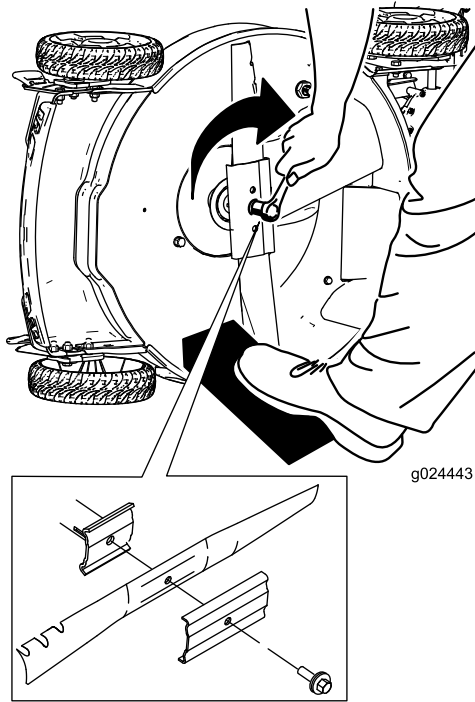

Figure 30
- Install the new blade and all mounting hardware (Figure 30).